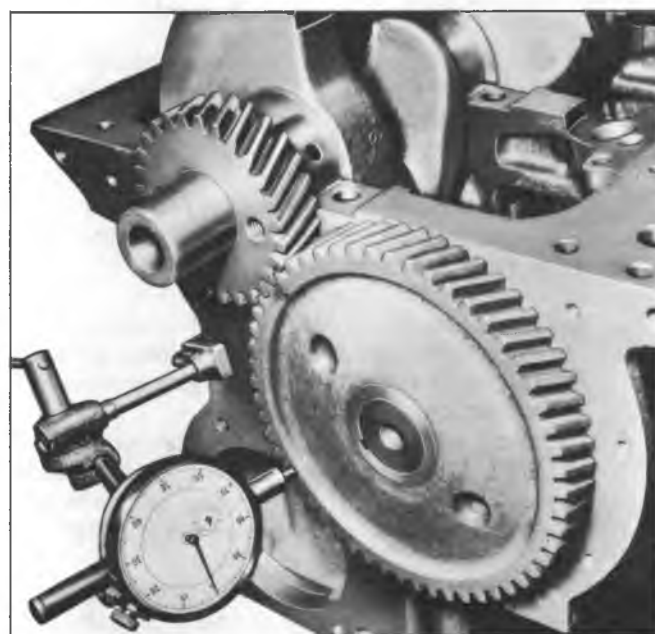

Fig. 8—Checking Timing Gear Runout
- b. Check camshaft and crankshaft gear run out with a dial indicator (fig. 8). The camshaft gear run out should not exceed .004", and the crankshaft gear run out should not exceed .003".